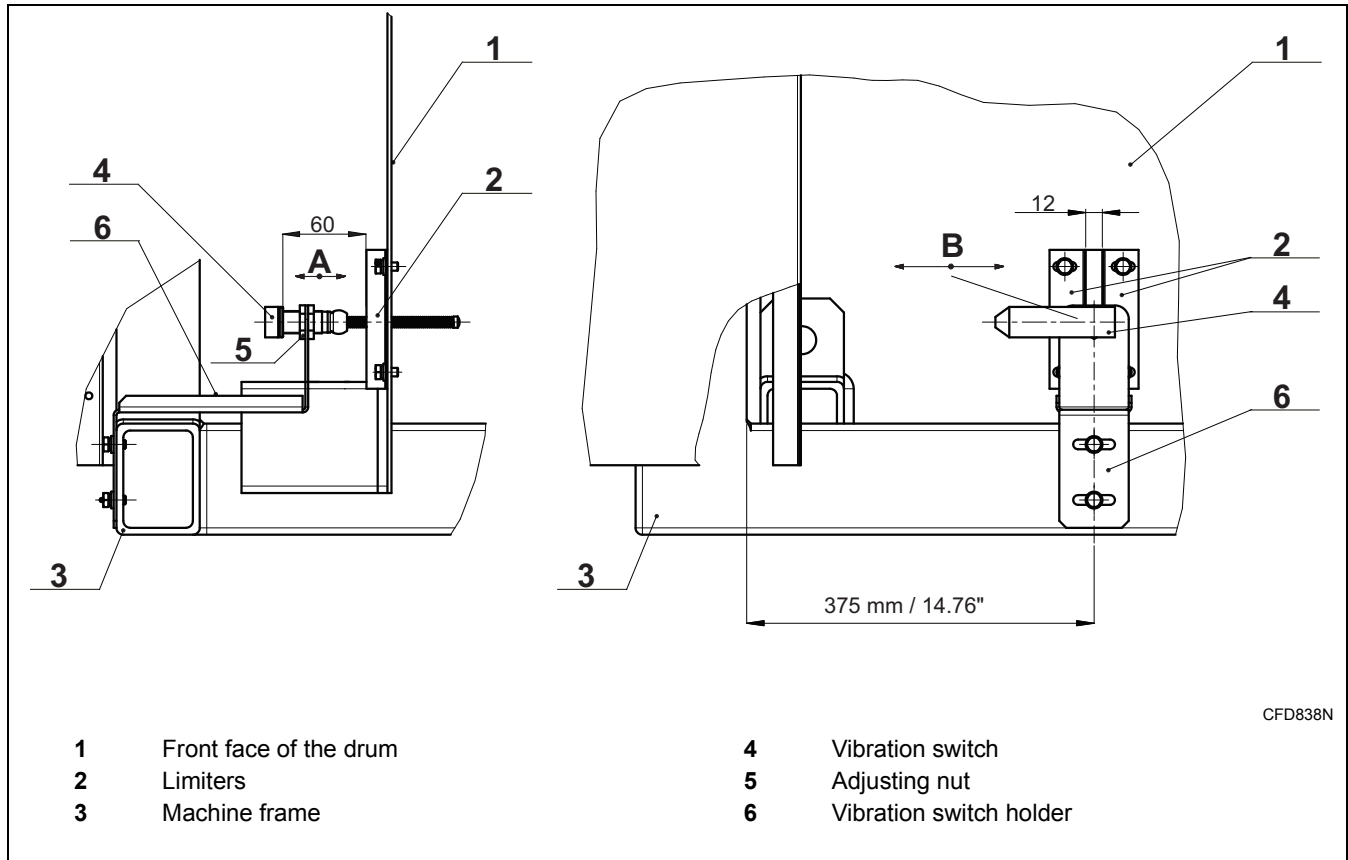

Figure 18
The unit contains the vibration switch (*Figure 18*, pos.4) with a flexible controlling element, which is attached to a holder (6) by nuts (5) and the entire assembly is bolted to the machine frame (3). The switch controlling element is inserted into the limiters (2) which is bolted to the drum front face (1). The limiters are a part of the assembly that vibrates. The